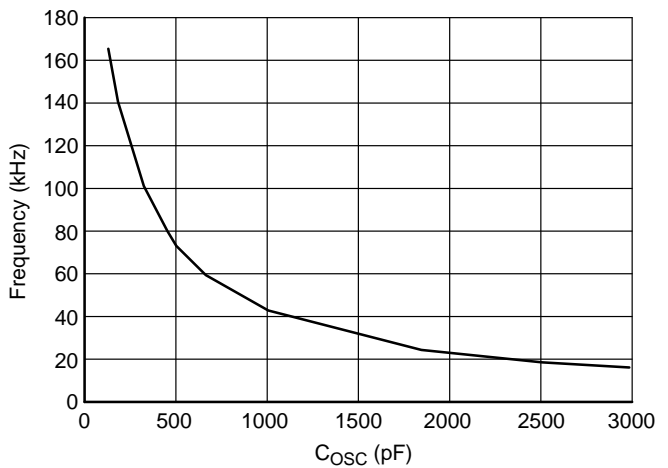

Figure 5. Oscillator Frequency (kHz) vs. C_{OSC} (pF), Assuming $R_{BIAS} = 64.9 \text{ k}\Omega$
1. Refer to Figure 5 to determine oscillator frequency.
Choose C_{OSC} based on the target oscillator frequency with an external resistor value, $R_{BIAS} = 64.9 \text{ k}\Omega$ (See Figure 5).